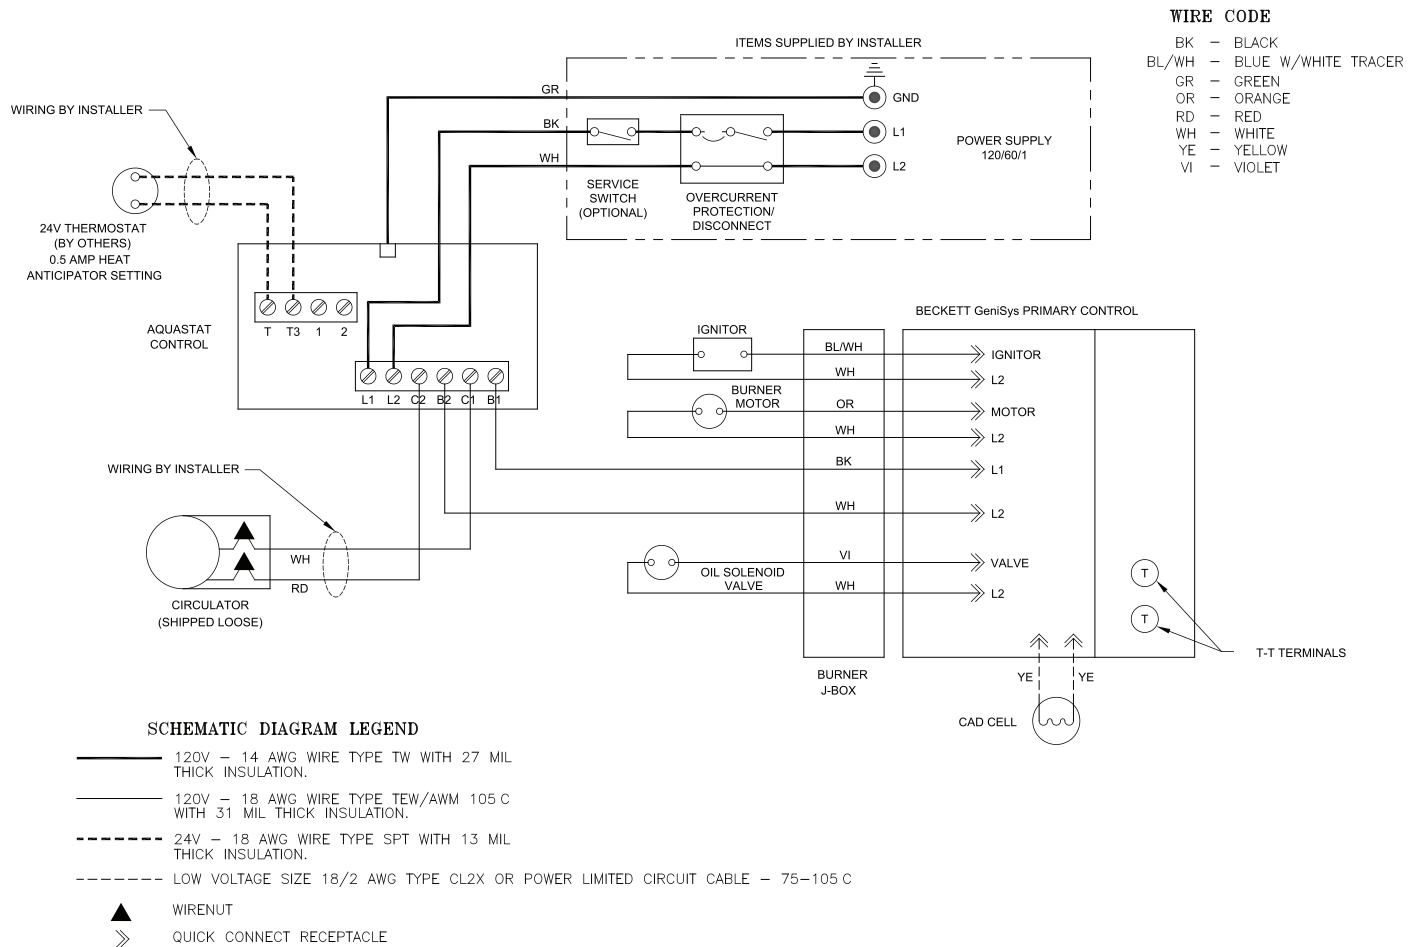

Figure 19A: Wiring Diagram for Water Boilers With Beckett AFG Burner and Split Controls Less Tankless Heater
- L. **INSTALL ELECTRIC WIRING** in accordance with National Electrical Code and local regulations. A separate electrical circuit must be run from the main electrical service with an over-current device/disconnect in the circuit. A service switch is recommended and may be required by some local jurisdictions. Wiring should conform to Figures 19A thru 21B.